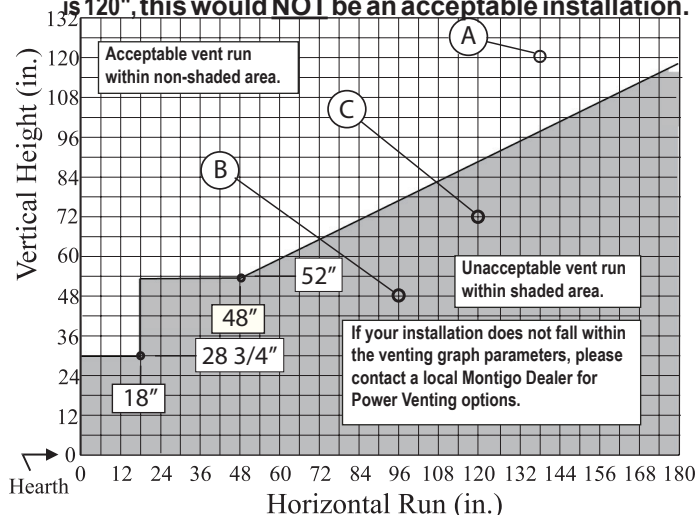

Figure 15. Rear Vent Venting Graph for wall mounted terminations.
- Venting runs *must* fall within the limits set by the venting graphs, see Figure 15.
Measure the vertical height from the fireplace hearth to the centre of the termination and the horizontal run from the fireplace flue collar to the wall flange of the termination. Plot on the Venting Graph Figure 15 with an 'X'.
Figure 16a. H*38DF* Rear Vented, wall mounted Multi-elbow termination installation. The vent run must comply with the Venting Graph for Rear vent, wall mounted terminations, Figure 15.